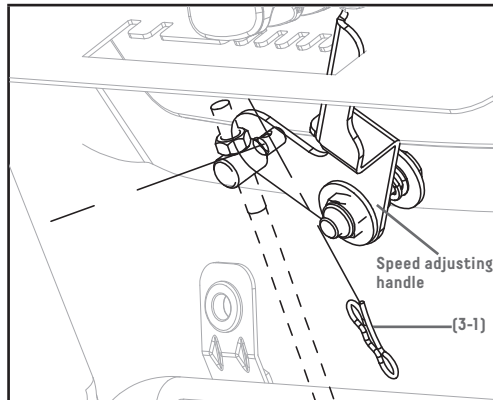

Figure 6C
2. Connect the connecting lever and speed adjusting handle with cotter pin (3-1) (Fig. 6C).